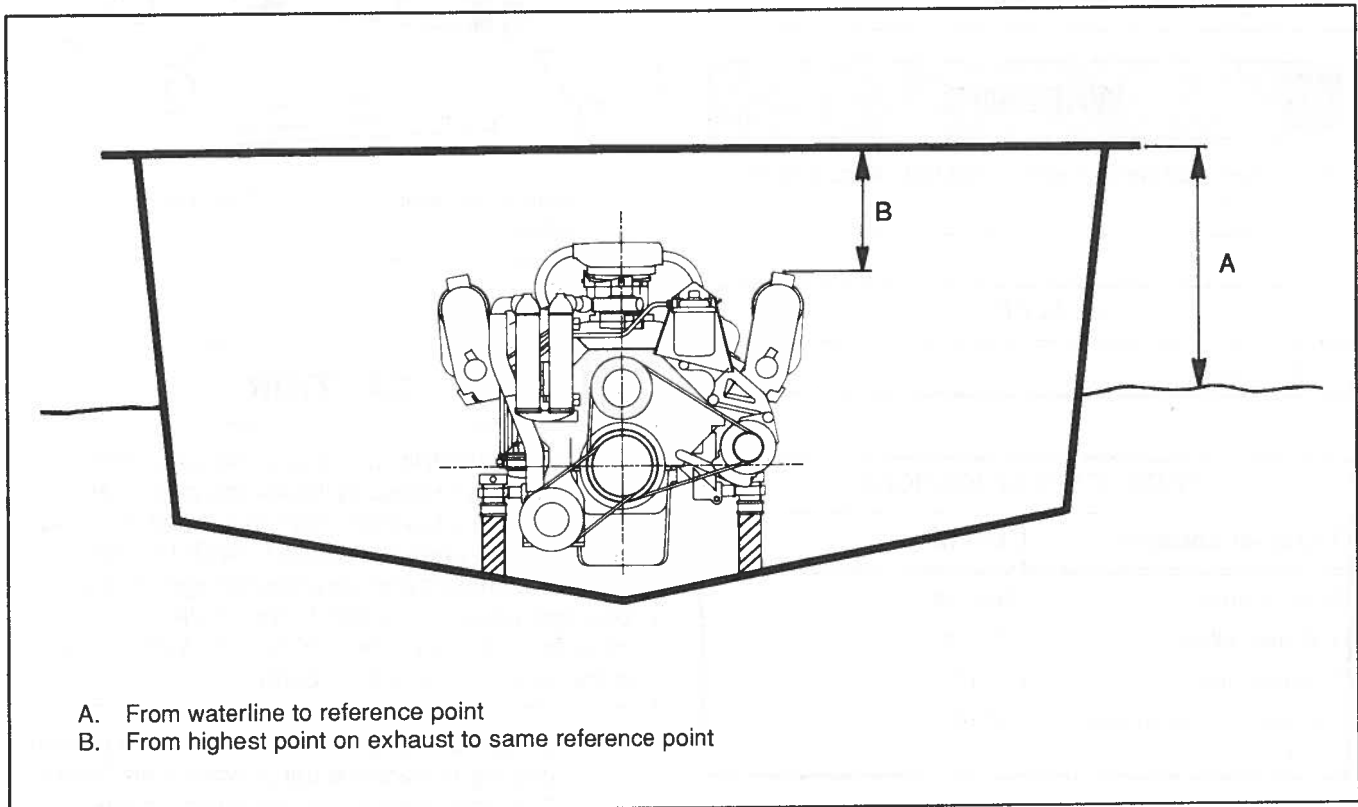

Figure 9-2. Measuring Dimensions "A" And "B"
2. Determine if exhaust elbows and/or risers are required by taking measurements "A" and "B," as shown in Figure 9-2, with the boat at rest in the water and a maximum load aboard. If "A"